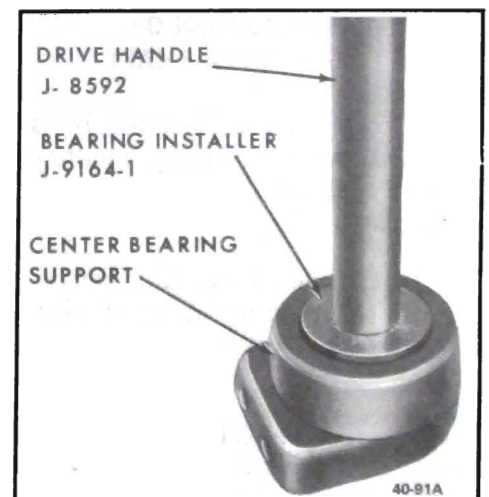

Figure 40-78 - Installing Center Support Bearing
2. Using Installer J-9164-1 and Driver Handle J-8592 install bearing into bearing support. See Figure 40-78.